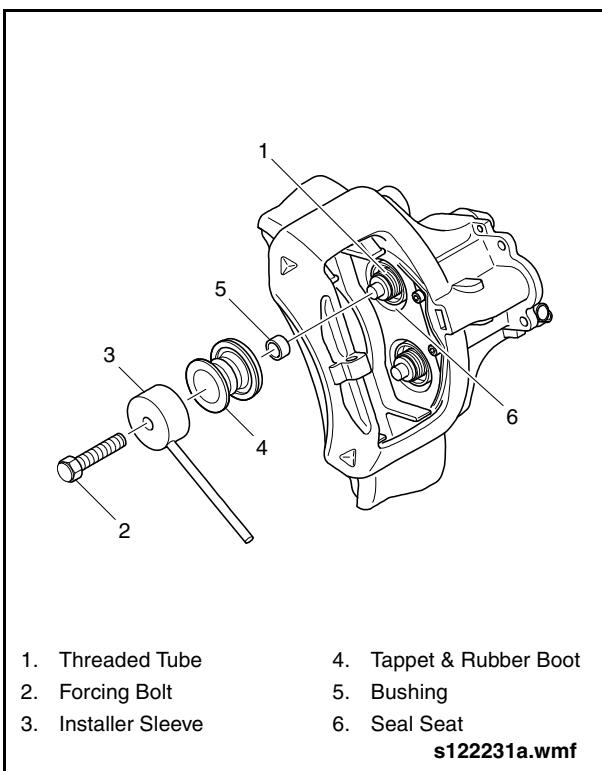

Fig. 1-72: Installing Tappet & Rubber Boot
9. Hold the installer sleeve (Item 82 from special tools list) against the rubber boot and use the long forcing bolt to press the rubber boot against the stop in the seat. See "Fig. 1-72: Installing Tappet & Rubber Boot" on page 69.